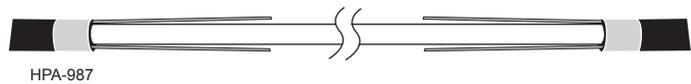

Figure 24
Step 11: Use the side cutters to cut the GRP rods 15 cm (6 in) from the other tape wrap (Figure 24).